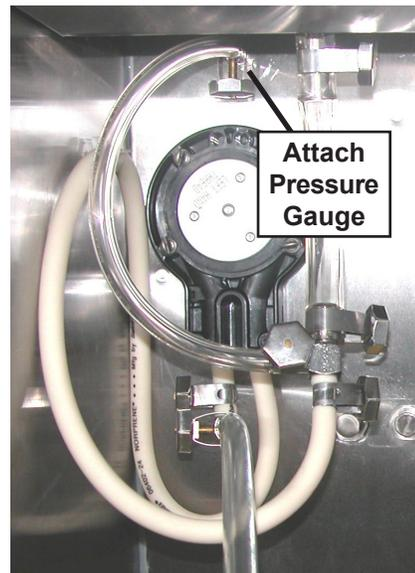

Figure 4-11 Attaching Gauge to Pump
3. Connect a gauge between the 1/4" ID tubing and pump outlet in the cab (Refer to Figure 4-11).